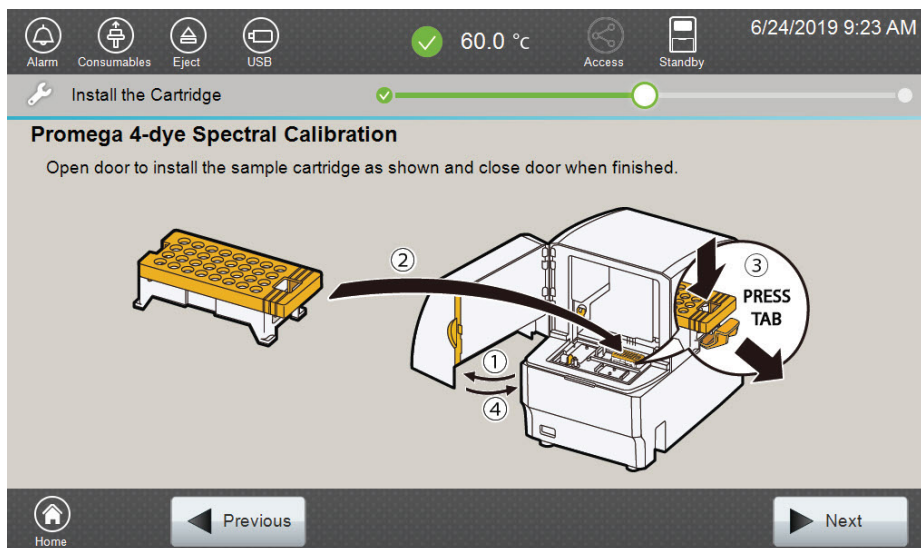

Figure 22. 'Install the Cartridge' screen.
- Open the front door of the Spectrum Compact CE System and mount the sample cartridge on the autosampler by following the instructions displayed on the 'Install the Cartridge' screen (Figure 22).